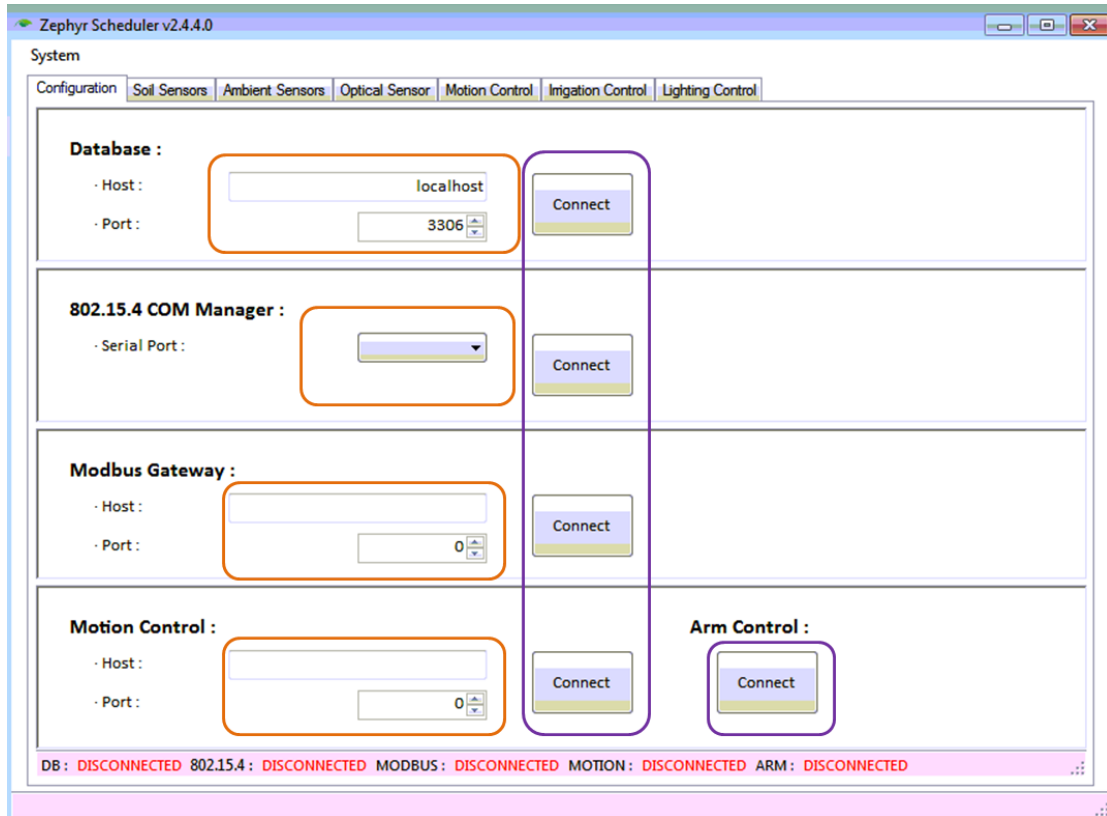

Figure 7: Configuration tab
After launching the Zephyr scheduler application, the user can access the configuration tab (Figure 7) and set up the connection parameters to enable the communication with the subsystems through different physical interfaces (LAN, Serial COMs,..) and initialize the system Database (DB) using the connect buttons.